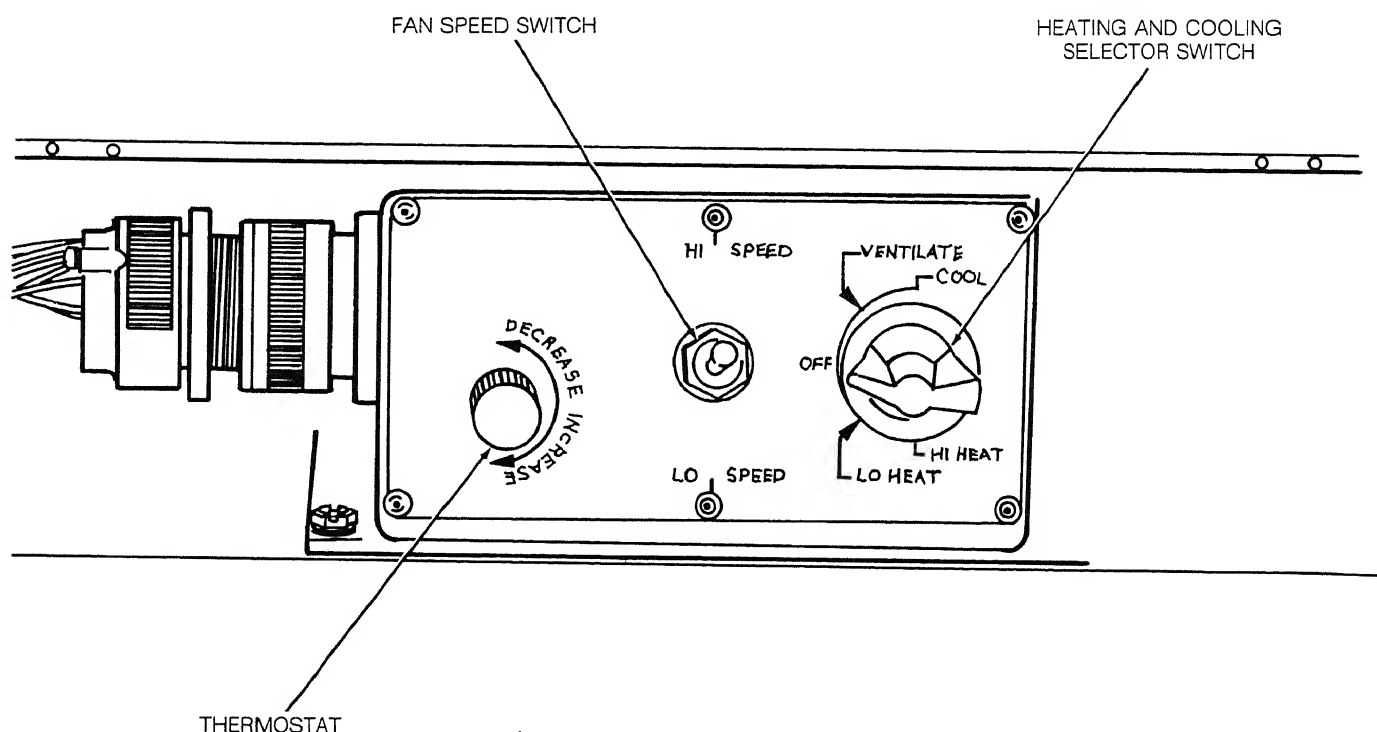

Figure 2-1. Controls and Instruments
Refer to figure 2-1. Place the selector switch in OFF position.
1. COMPRESSOR FAILS TO START	<p>Step 1. Set selector switch to COOL position (fig. 4-2A). If compressor does not start, go to step 2.</p> <p>Step 2. Reset circuit breaker (fig. 2-1). If compressor does not start, go to step 3.</p> <p>Step 3. Check if high pressure cutout switch is closed. Push reset button to reset cutout switch if open.</p> <p>Step 4. Check if low pressure cutout switch is closed. Push reset button to reset cutout switch if open</p>